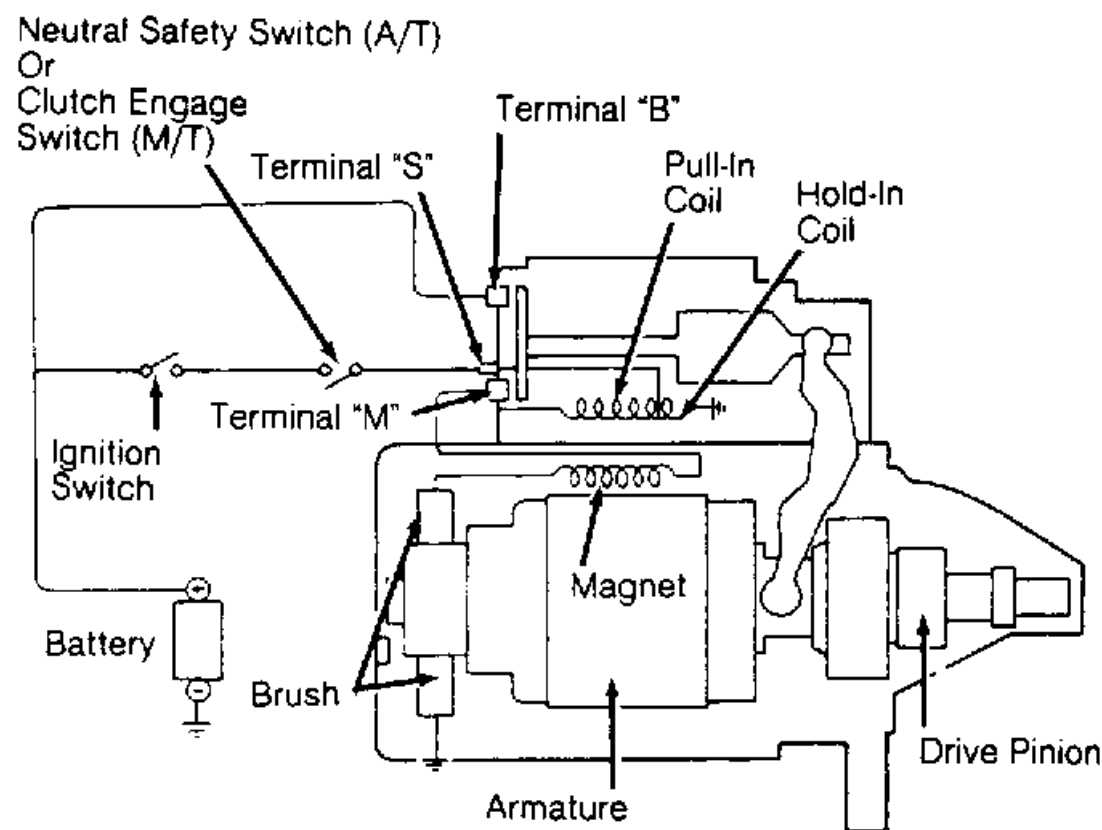

Fig. 1: Starter System Schematic
1. Using a digital voltmeter, connect positive voltmeter lead to starter solenoid terminal "S", and negative lead to starter housing. See Fig. 1.